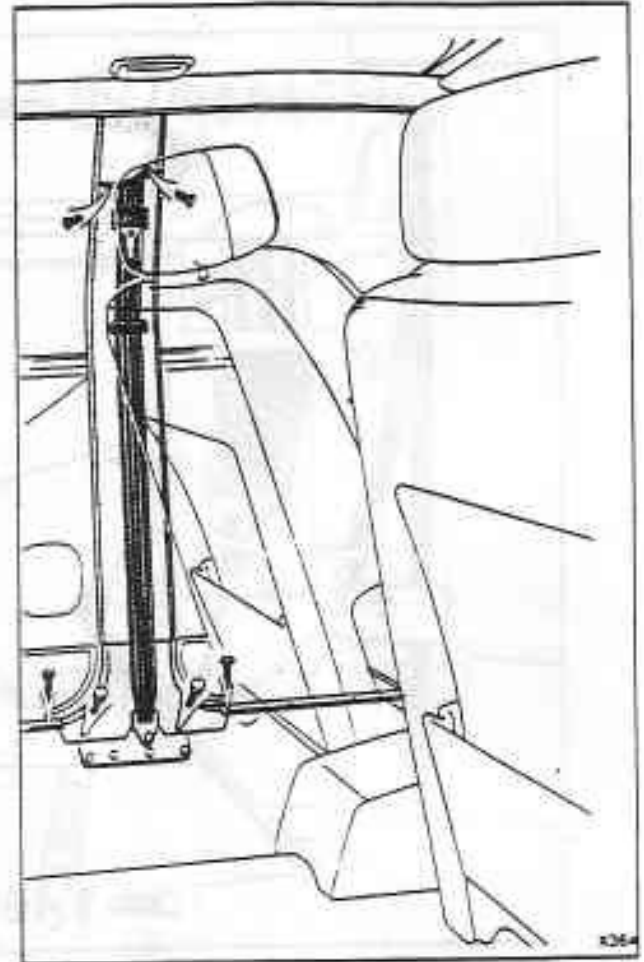

Fig. S6-1 Removing the trim from the 'B & C' post
3. Remove the small piece of trim covering the air conditioning sensor and the top seat belt fixing point. Release the two screws from under the bottom edge of the trim, lift and disengage the retaining lugs and remove the trim from the car (see fig. S6-1).
Release the two bolts retaining the bottom of the trim to the reel cover plate (see fig. S6-1).